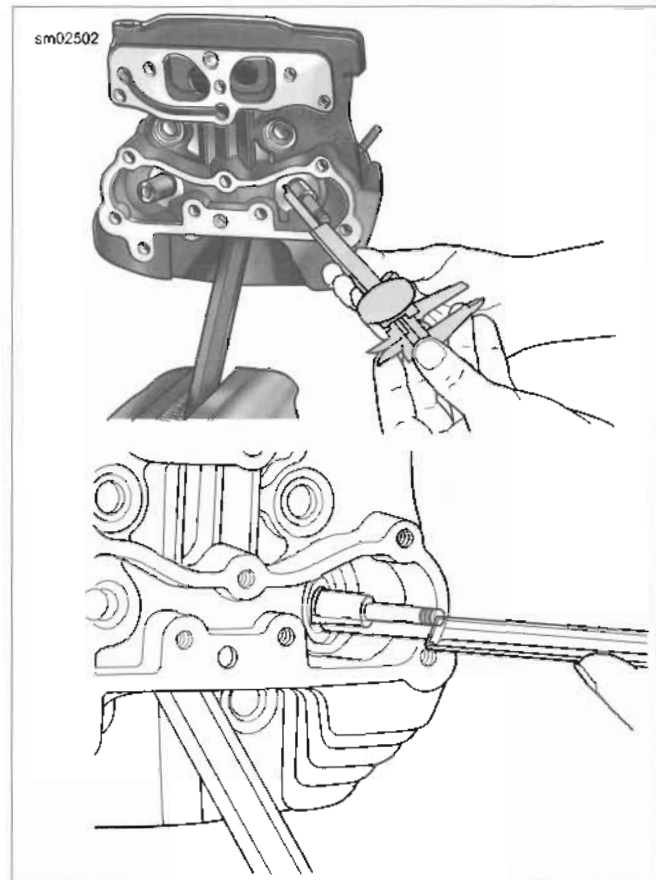

Figure 3-51. Checking Valve Stem Protrusion
5. See Figure 3-51. Measure valve stem protrusion.